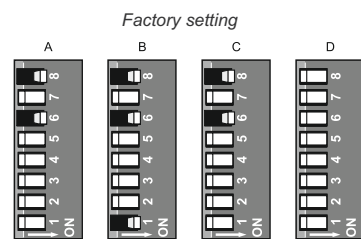

Fig. 4.1.2
2. Place dip-switch **6**, then dip-switch **8** and subsequently dip-switch **1** in their **ON** positions, as shown in Figure 4.1.2.